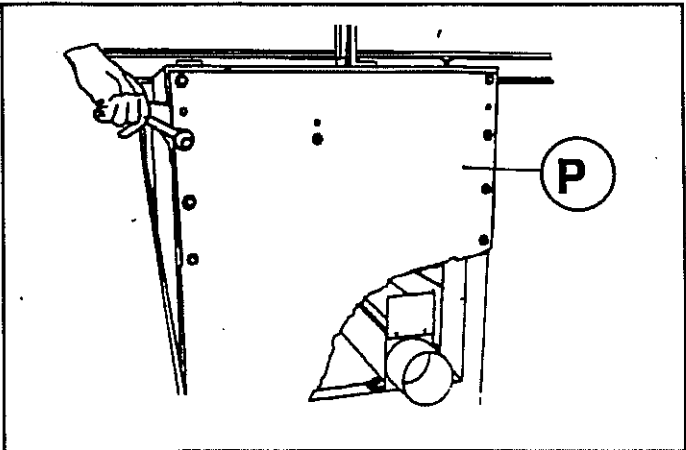

FIG.6.13
Remove the pinion holder plate (P) on the right of the machine (fig.6.13)
Remove the 4 screws (V) from the suction chanel (A fig.6.13)